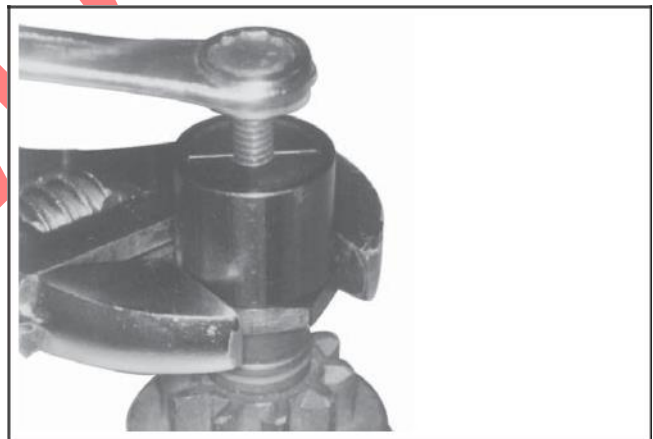

Figure 8-19. Holding Tool and Turning Center Screw (Clockwise) to Remove Retaining Ring.
5. Thread the center screw into the removal tool until you feel resistance. Use a wrench (1 1/8" or adjustable) to hold the base of the removal tool. Use another wrench or socket (1/2" or 13 mm) to turn the center screw clockwise (see Figure 8-19). The resistance against the center screw will tell you when the retaining ring has popped out of the groove in the armature shaft.